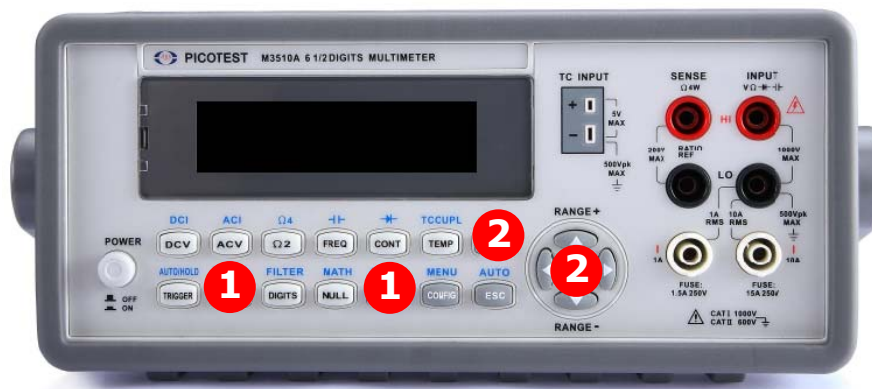

Figure 4-31
1. Press SHIFT + STORE buttons as shown in **Figure 4-31**.